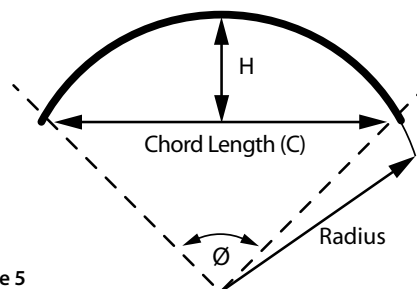

Figure 5
2. Measure the corresponding chord length (C)
– Refer to Figure 5
3. Measure the corresponding centre offset (H)